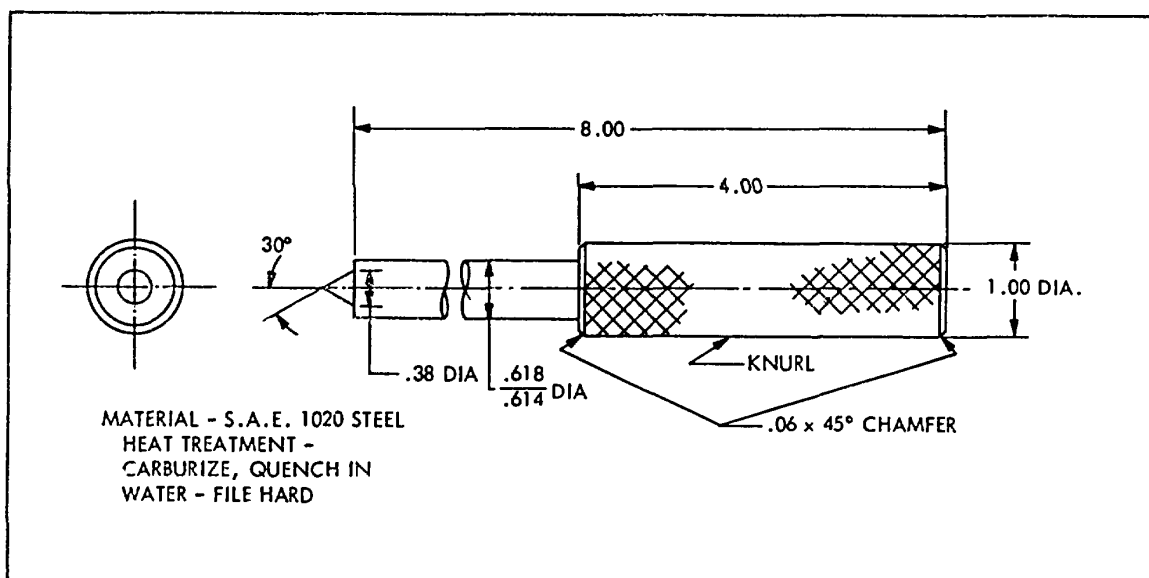

Figure 6-12. Steering Gear Rack-Piston Arbor Tool Details
3. Insert rack-piston arbor (see figure 6-12 for tool details) through ball nut (65, figure 4-32.) in end of worm (59). Rotate stub shaft (76) to left turn, which will force rack-piston ball nut onto arbor, and remove rack-piston ball nut from gear housing (87). Take care to keep arbor in place in ball nut or balls will fall out. If rack-piston ball nut is being removed to replace the piston ring (60) and back-up packing (61), reassemble without further disassembly.
5. Remove worm (59), lower thrust bearing (68) and races (67).